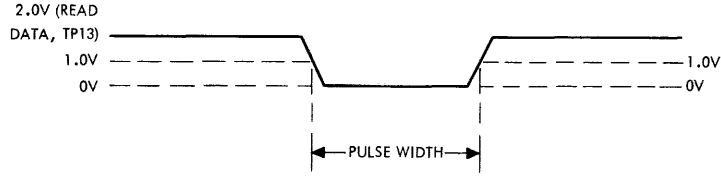

Figure 6-20. Read Clock/Read Data Pulsewidth
- (1) Observe Read Data TP13 (and Read Clock TP12) on oscilloscope Channels 1 and 2, respectively, as shown in Figure 6-20.
- (2) Measure and note the pulsewidth.
- (3) Acceptable limits: